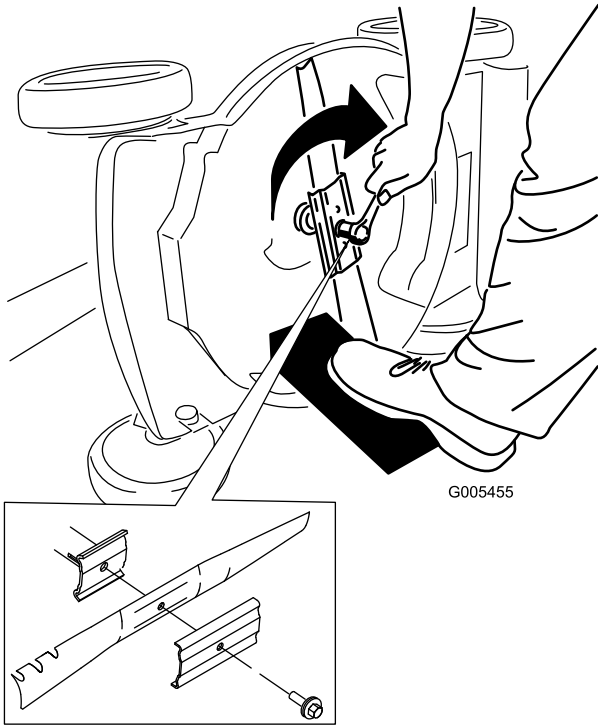

Figure 53
5. Install the new blade and all mounting hardware (Figure 53).